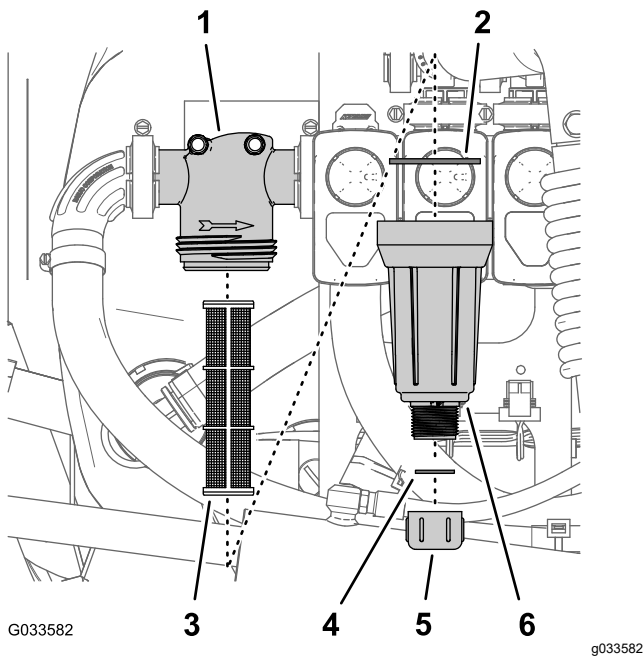

Figure 90
2. Align a drain pan under the pressure filter (Figure 90).
3. Rotate the drain cap counterclockwise and remove it from the bowl of the pressure filter (Figure 90).
4. Rotate the bowl counterclockwise and remove the filter head (Figure 90).
5. Remove the old pressure filter element (Figure 90).
6. Check the gasket for the drain plug (located inside the bowl) and the gasket for bowl (located inside the filter head) for damage and wear (Figure 90).
7. Install the new pressure filter element into the filter head (Figure 90).
8. Install the bowl onto the filter head, and tighten by hand (Figure 90).
9. Assemble the drain cap onto the fitting at the bottom of the bowl, and tighten the cap by hand (Figure 90).